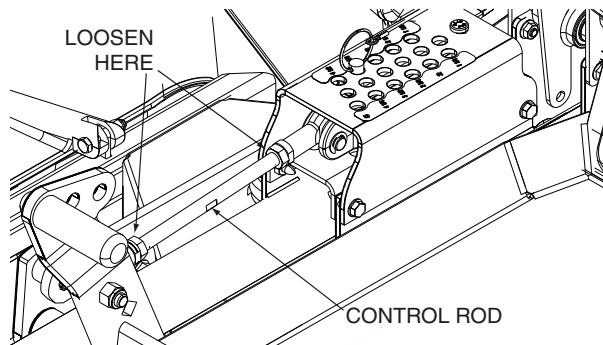

Figure 6-8. Cutter Deck Height Adjustment
- A. 3-1/2" or 3-3/4" Position - (See Figure 6-8). For very tall, wiry or tough-to-cut grass.
- B. 4" (factory setting), 4-1/4" or 4-1/2" Position - (See Figure 6-8). For general purpose cutting. This gives the best mix of cutting performance in all types of grass.
- C. 4-3/4" or 5-1/4" Position - (See Figure 6-8). Placing the baffle in either the 4-3/4" or 5-1/4" setting will enhance fall cutting (leaf pickup) and reduce cutter deck "blowout".
3. Move the Custom-Cut Baffle to desired position. See Figure 6-8.